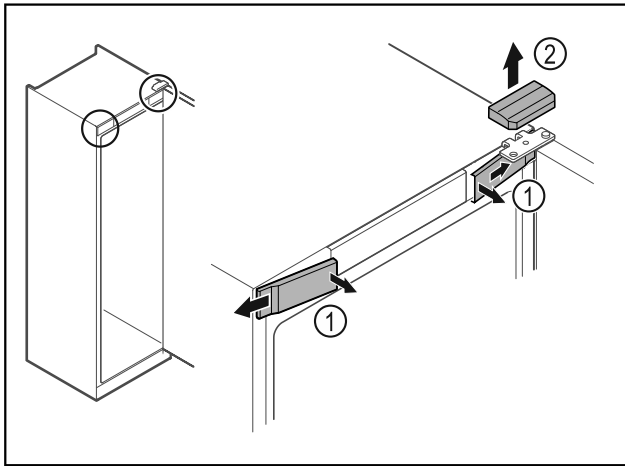

Fig. 8 *
- ▶ Unlatch the front covers Fig. 8 (1) on the inside and remove them sideways.*
- ▶ Lift off the upper cover Fig. 8 (2).*